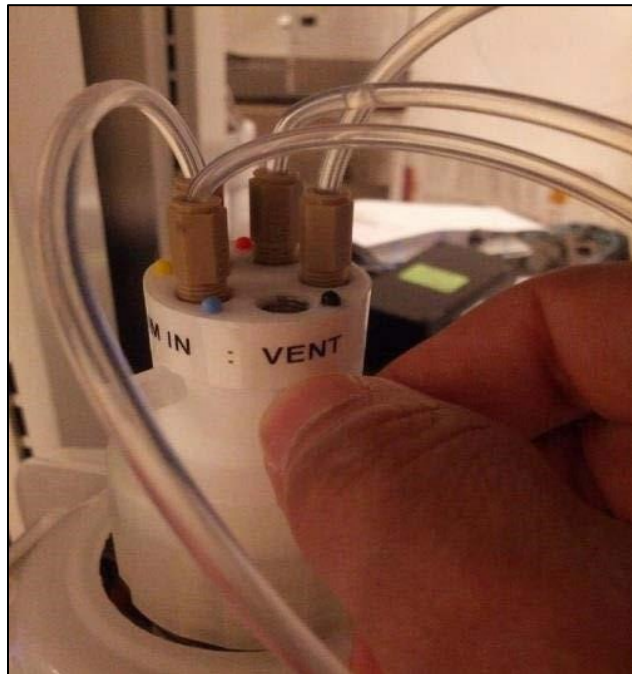

Figure 55. Venting the noble gas from the pressure reservoir.
- a. Vent the noble gas by closing the stopcock on the noble gas input line and opening the vent stopcock (Figure 55).